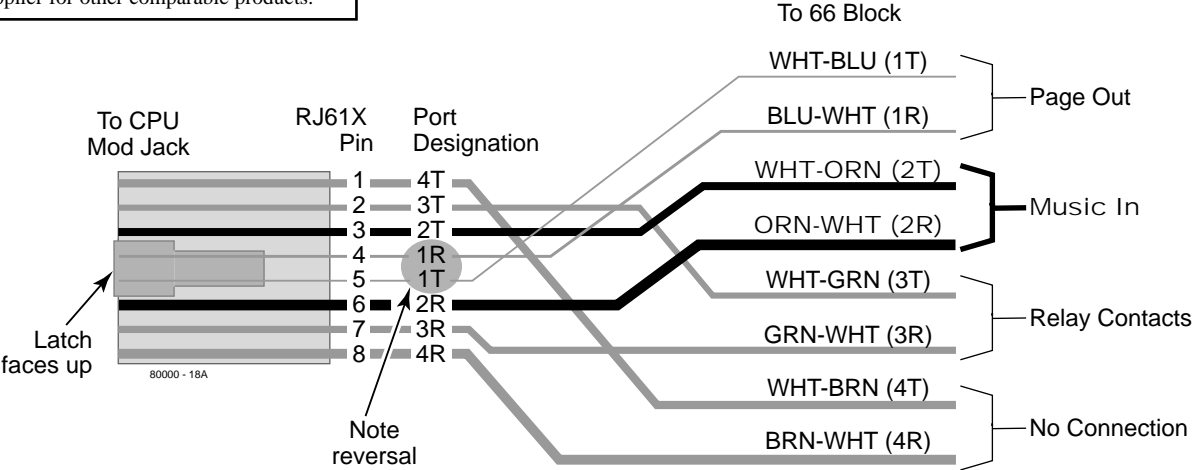

Figure 4-4 INSTALLING A MUSIC SOURCE
Installing a Music Source (Figure 4-4)
2. For the connector chosen, locate pins 2T and 2R (see Figure 4-4) and connect the music source.